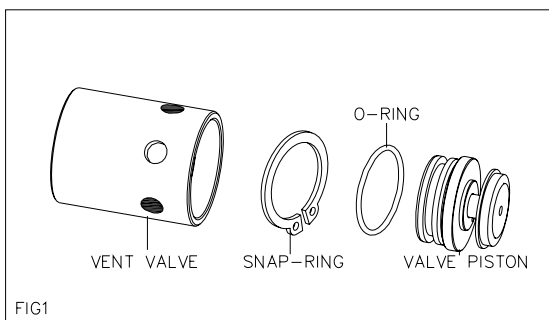

FIG1
- 3.Third , put a small amount of grease on the o-ring and reassemble(FIG1).